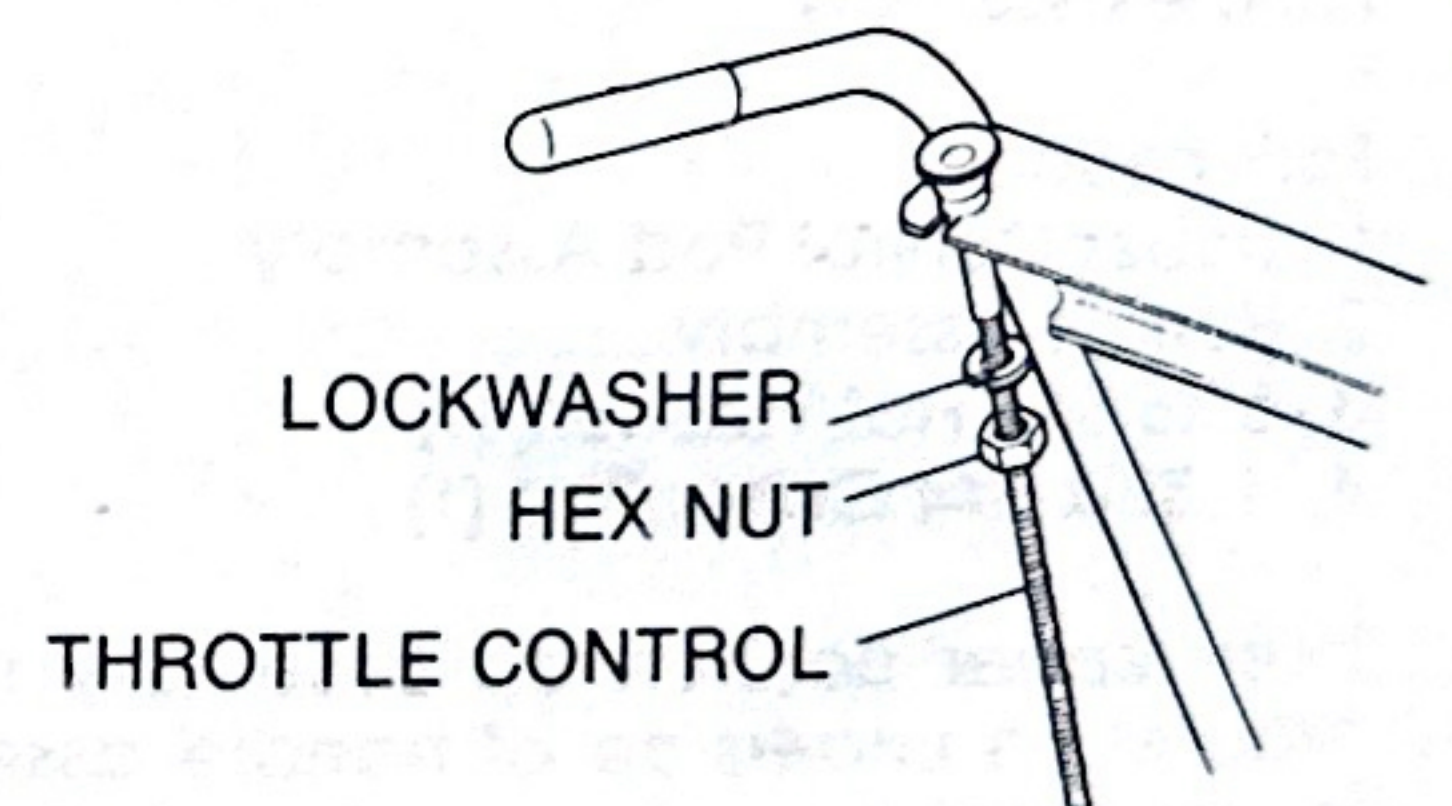

FIG. 6
6. Attach throttle control to handle assembly, Fig. 6.
This control regulates the engine speed from idle to fast and also stops the engine. It is located on the handle panel (Fig. 6). To idle engine push throttle control in. To increase speed pull throttle control out. To stop engine push throttle control all the way in.